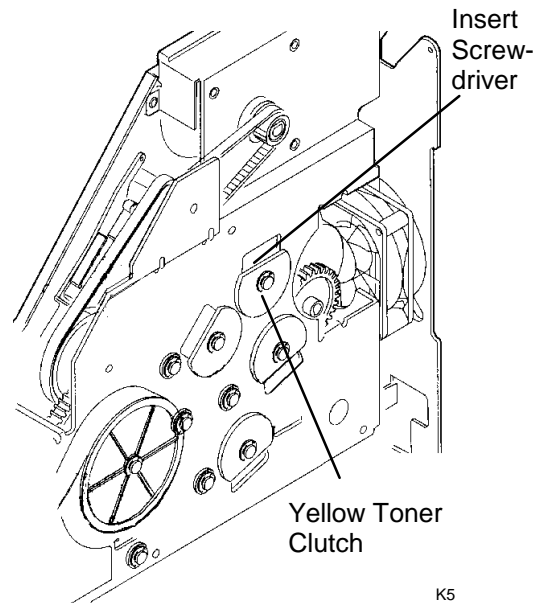

Figure 2. Energizing the Solenoid
1. (Figure 2): Insert a screwdriver in the hole just above the Yellow Toner Clutch and manually energize the Magnetic Roller Cleaning Solenoid.